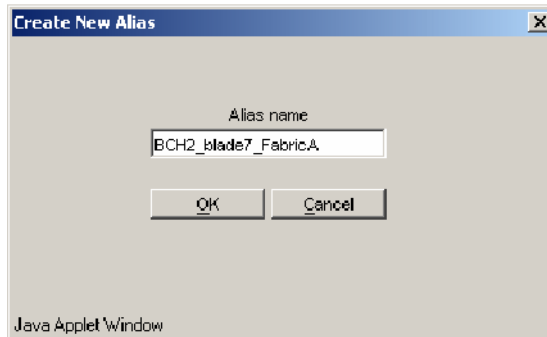

Figure 5-55 Creating an Alias name server blade 7
2. Create a unique Alias name for port A of the FC daughter card server blade. Here we used BCH2_Blade7_FabricA (see Figure 5-55).